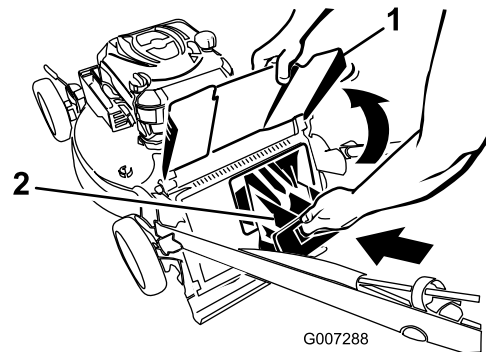

**Figure 23**
1. Route the starter rope around the lower-rope guide (Figure 23).
4. Install the rear-discharge plug (Figure 23).